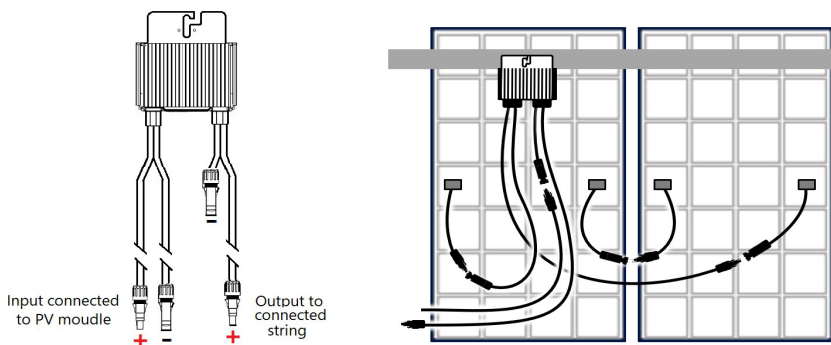

Figure 9 H1300 Power Optimizer Connectors
- Connect the Plus (+) output connector of the module to the Plus (+) input connector of the Power Optimizer (see Figure 9).